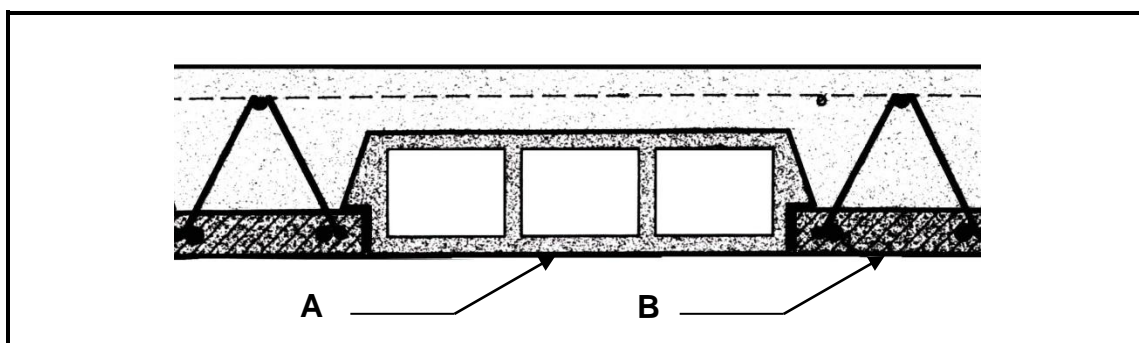

FIGURE 6.4
- 6.4 Answer the following questions regarding the floor construction in FIGURE 6.4.